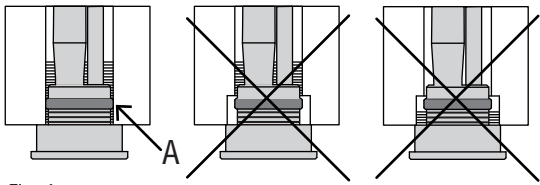

Fig. 4
6. Make sure that the ATLANTIS gasket is fully sealed to the female thread of the towel rail (Fig. 4).